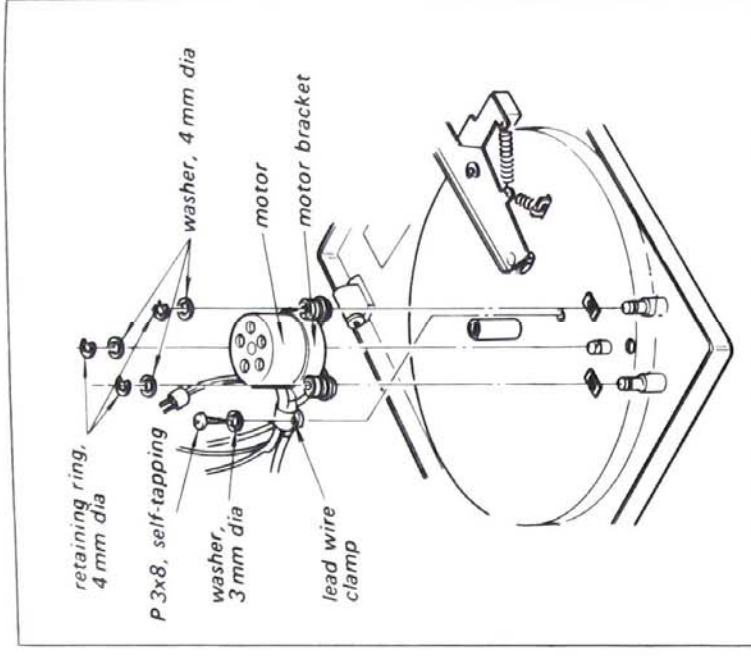

Fig. 2-15. Motor removal
4. Remove the lead wire clamp by removing the self-tapping screw shown in Fig. 2-15.
5. Remove the motor bracket along with the motor by removing the three retaining rings and three washers as shown in Fig. 2-15.